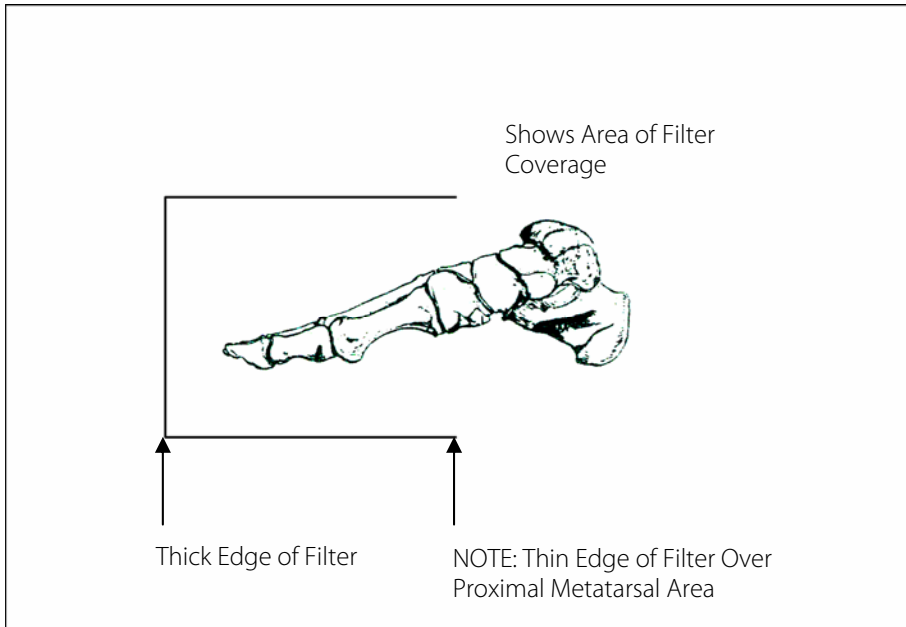

Figure 2-2. Lateral Filter Orientation
- C. When performing a single-exposure lateral radiograph of the foot, the thin filtration portion of the filter should begin at the proximal end of the metatarsal bones. The thick edge of the filter should extend beyond the terminal phalanges (see Figure 2-2).